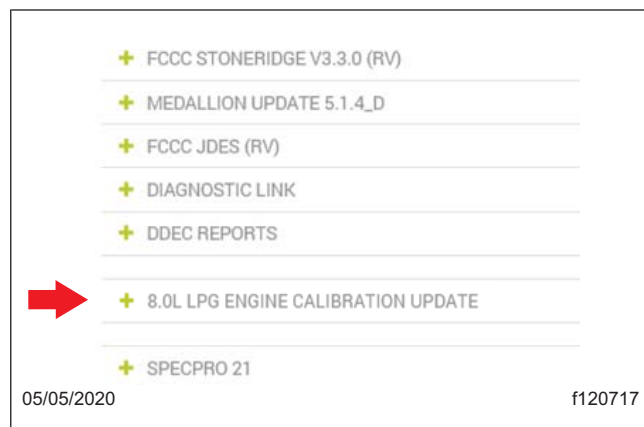

Fig. 2, Selecting 8.0L LPG Engine Calibration Update
6. A list will appear on the screen. Select '8.0L LPG Engine Calibration Update.' See Fig. 2.